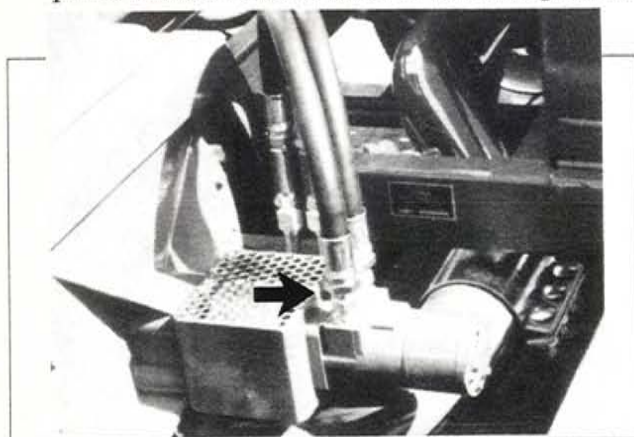

Fig. 24 AIRLOCK DRIVE MOTOR
3. Remove hydraulic lines from the airlock drive motor (Fig. 24) to allow rotation of the airlock or place airlock control lever in forward position.